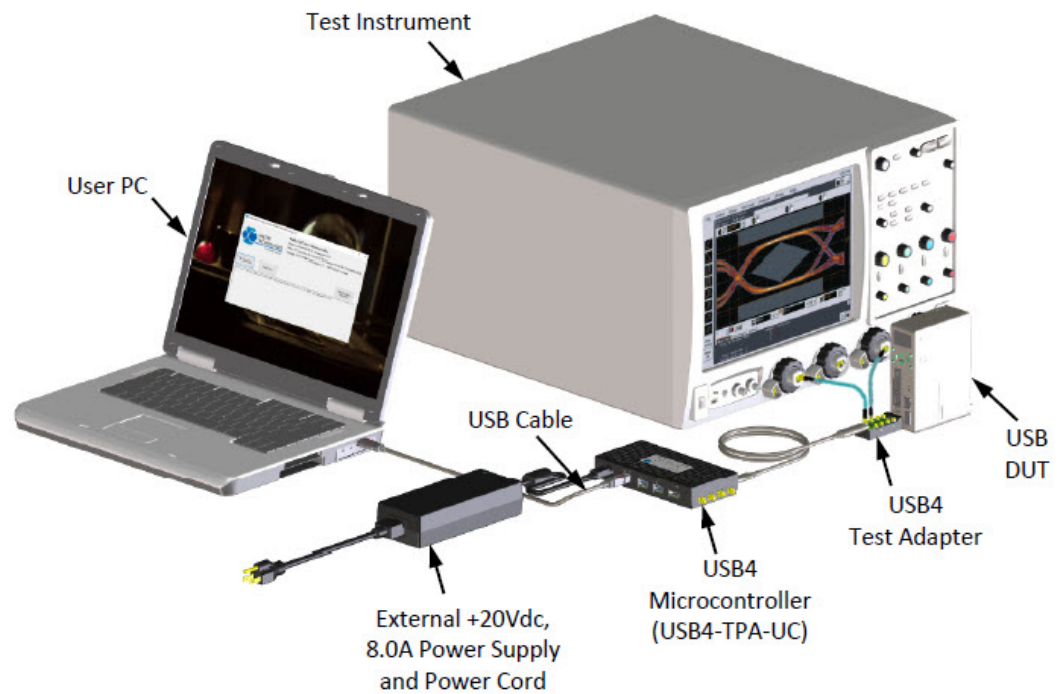

Figure 84 Transmitter TP2/TP3 Test Setup
- 1 For the physical connection between the DUT & the Oscilloscope, see Figure 84 and for configuring the USB4 Test Application, see "Setting up the USB4 Test Application" on page 46.
- 1 Connect the DUT to the Oscilloscope as shown in the Figure 84.